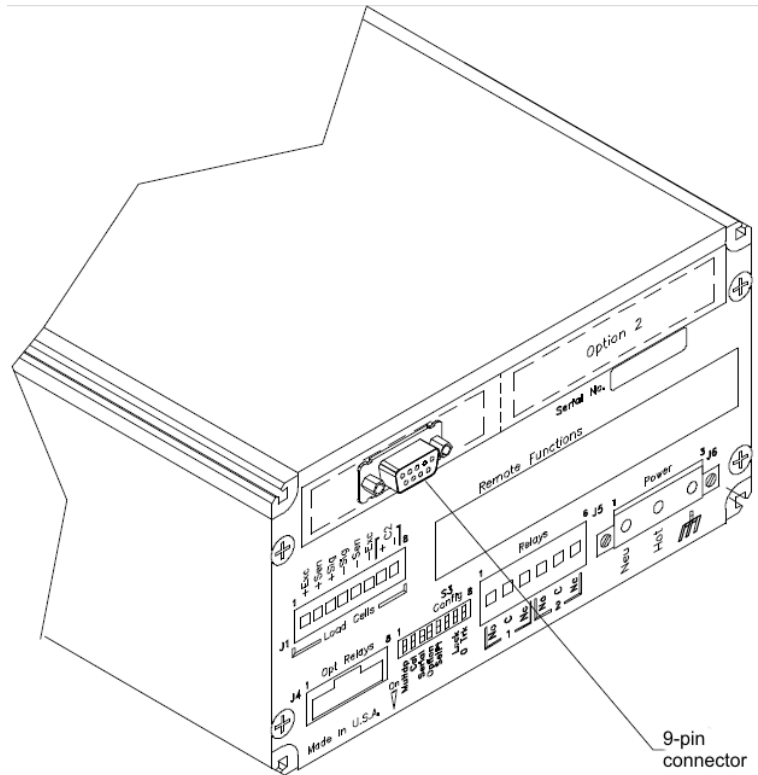

Figure 2-6
2. Plug the Siemens cable assembly and bus connector into the 9-pin female connector on the rear panel of the chassis. (See Fig. 2-6)